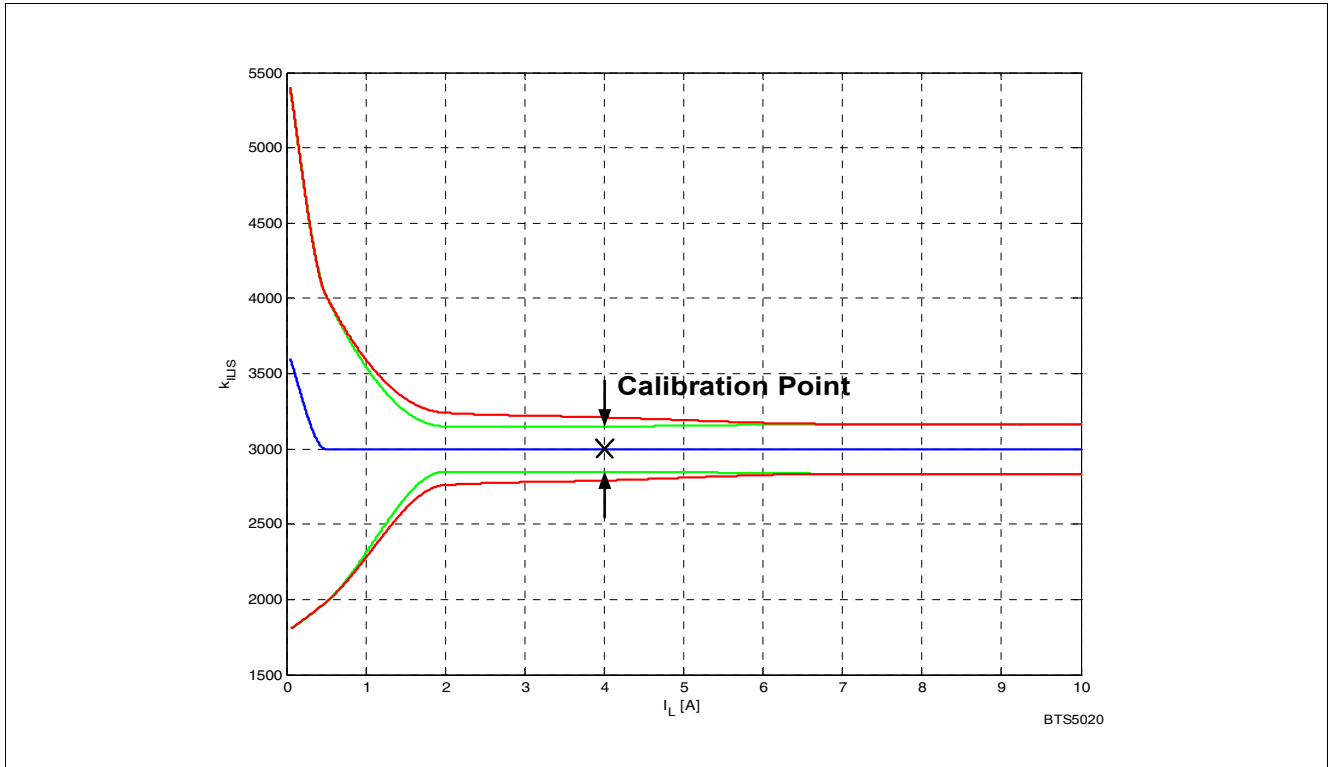

Figure 22 Improved SENSE Accuracy with One Calibration Point
**Figure 21** and **Figure 22** show the current sense as a function of the load current in the power DMOS. Usually, a pull-down resistor  $R_{IS}$  is connected to the IS pin. This resistor has to be higher than  $560\ \Omega$  to limit the power losses in the sense circuitry. A typical value is  $1.2\ k\Omega$ . The blue curve represents the ideal SENSE, assuming an ideal  $k_{ILIS}$  factor value. The red curves show the accuracy the device provides across full temperature range, at a defined current.
In some applications a better accuracy is required around half the nominal current  $I_{L(NOM)}$ . To achieve this accuracy requirement, a calibration on the application is possible. To avoid multiple calibration points at different load and temperature conditions, the BTS5020-2EKA allows limited derating of the  $k_{ILIS}$  value, at nominal load current ( $I_{L3}$ ;  $T_j = +25\ ^\circ C$ ). This derating is described by the parameter  $\Delta k_{ILIS}$ . **Figure 22** shows the behavior of the SENSE current, assuming one calibration point at nominal load current and  $+25\ ^\circ C$ .